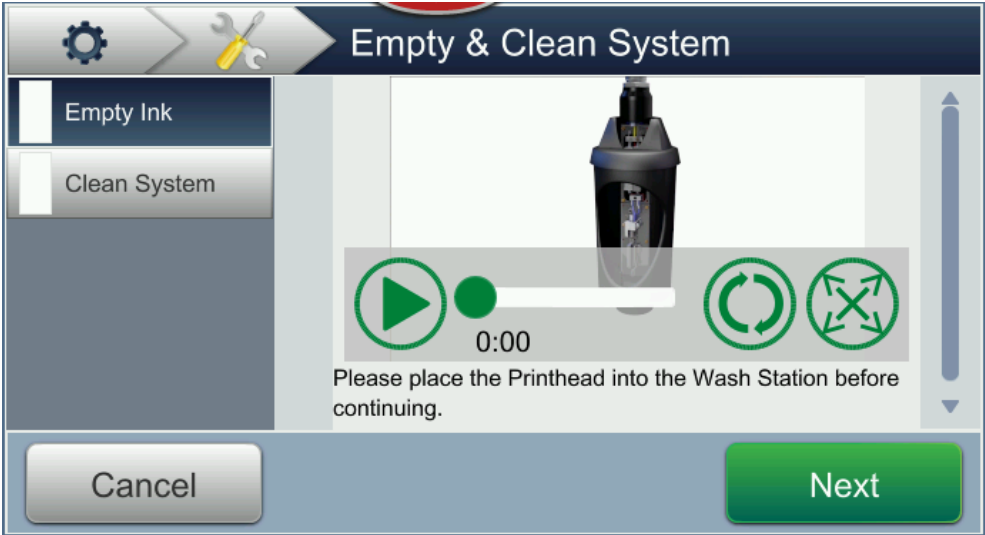

Figure 7-3: Empty and Clean System Screen
- 2. Follow the instructions/video and touch the *Next* button as shown in the Figure 7-3 to progress.